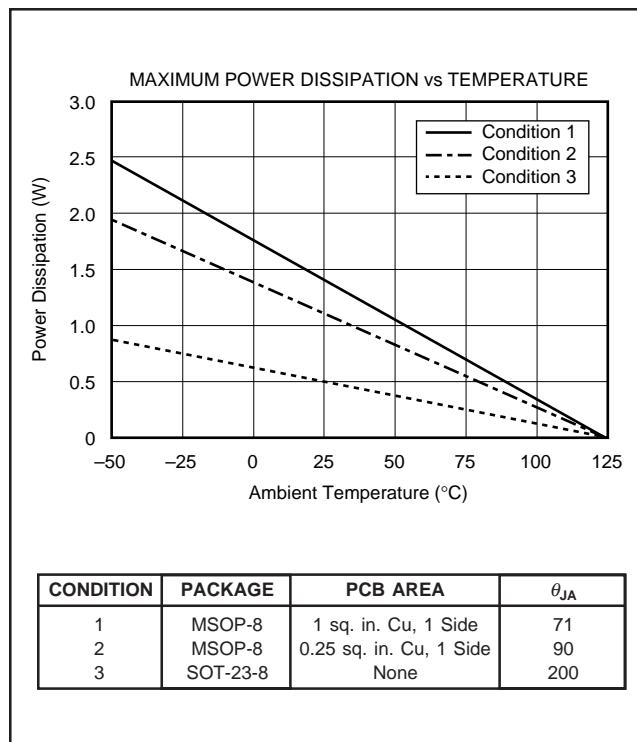
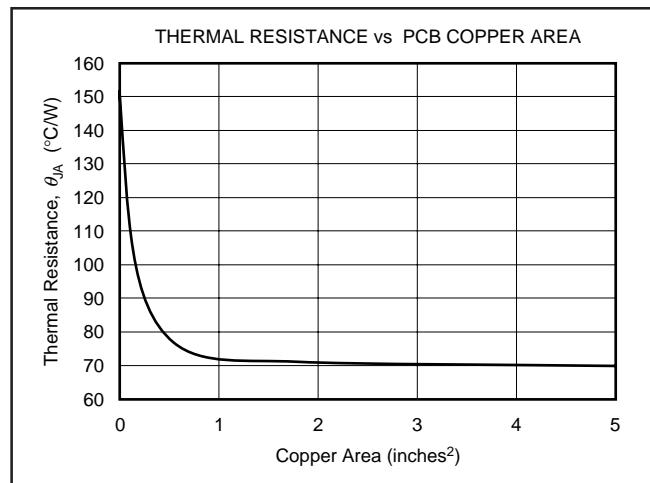

FIGURE 6. Maximum Power Dissipation versus Ambient Temperature for the Various Packages and PCB Heat Sink Configurations.
FIGURE 7. Thermal Resistance versus PCB Area for the MSOP-8.
(4) For  $V_{\text{ENABLE}} > 6.5\text{V}$ , see typical characteristic  $I_{\text{ENABLE}}$  vs  $V_{\text{ENABLE}}$ .
(5) The REG113 no longer regulates when  $V_{\text{IN}} < V_{\text{OUT}} + V_{\text{DROP (MAX)}}$ . In dropout, the impedance from  $V_{\text{IN}}$  to  $V_{\text{OUT}}$  is typically less than  $1\Omega$  at  $T_J = +25^{\circ}\text{C}$ .
(6) See Figure 7.
The REG113 is available in two different package configurations. The ability to remove heat from the die is different for each package type and, therefore, presents different considerations in the printed circuit board (PCB) layout. On the MSOP-8 package, leads 5 through 8 are fused to the lead frame and may be used to improve the thermal performance of the package. The PCB area around the device that is free of other components moves the heat from the device to the ambient air. Although it is difficult or impossible to quantify all of the variables in a thermal design of this type, performance data for several simplified configurations are shown in Figure 6. In all cases the PCB copper area is bare copper, free of solder resist mask, and not solder plated. All examples are for 1-ounce copper and in the case of the MSOP-8, the copper area is connected to fused leads 5 to 8. See Figure 7 for thermal resistance for varying areas of copper. Using heavier copper can increase the effectiveness in removing the heat from the device. In those examples where there is copper on both sides of the PCB, no connection has been provided between the two sides. The addition of plated through holes will improve the heat sink effectiveness.